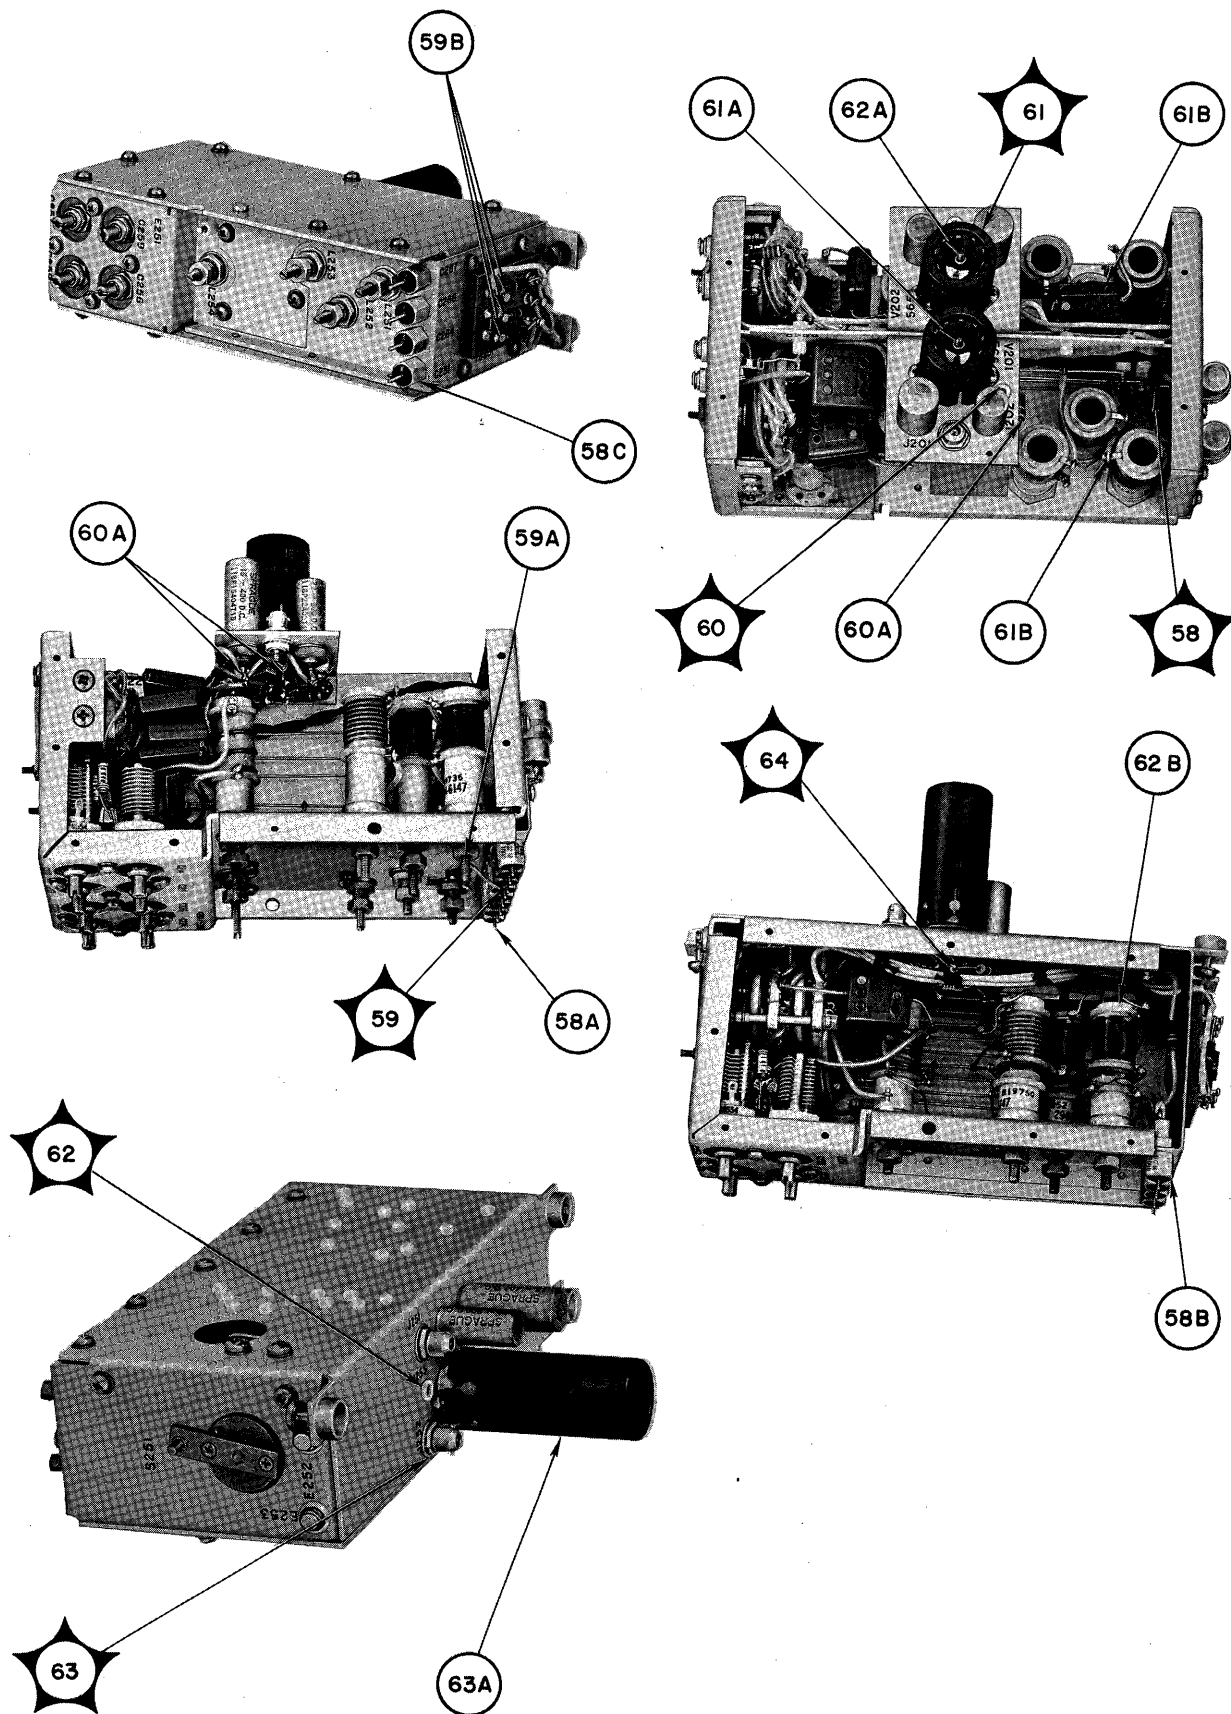

Figure 5-40. Harmonic Amplifier, Location of Test Points
*f.* HARMONIC AMPLIFIER TROUBLE-SHOOTING CHART.—Table 5-11 is the trouble-shooting chart for the harmonic amplifier. Perform each step in the order presented. Compare the result with information in the NORMAL INDICATION column and then follow the instructions in the NEXT STEP column. Figure 5-40 shows the location of test points. Table 6-5 gives voltage and resistance measurements at the tube sockets.